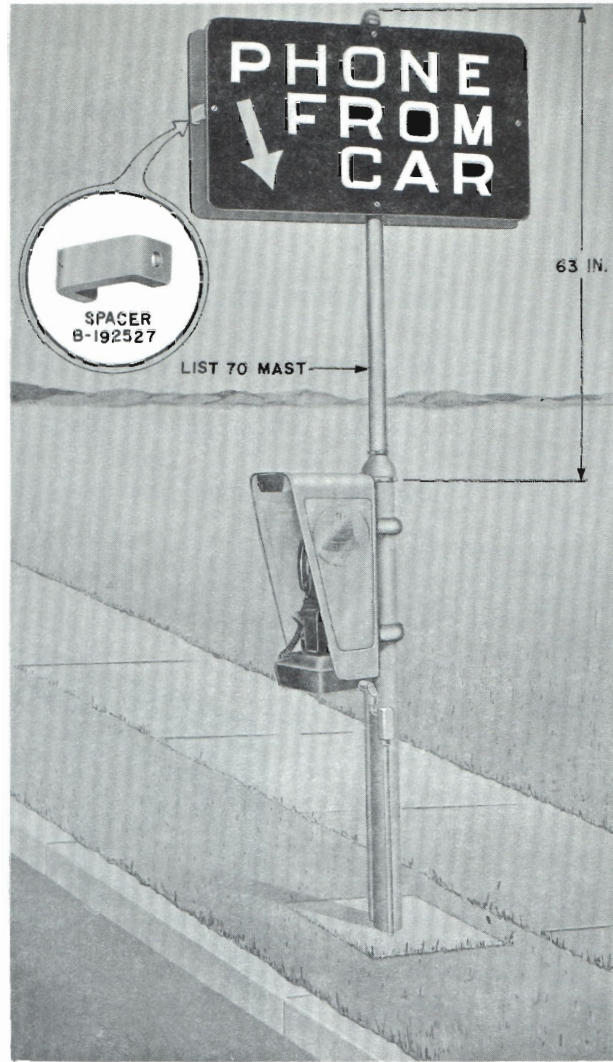
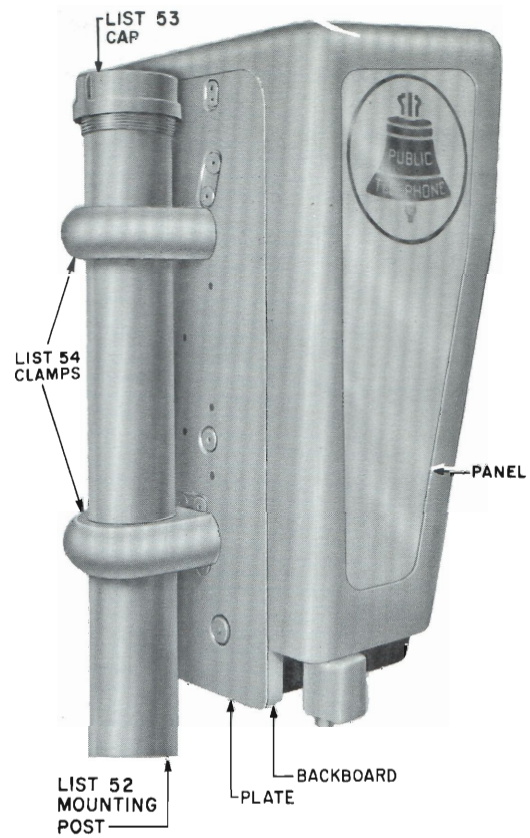

Fig. 4—Drive-Up Installation
Fig. 8 — Mounting KS-16705, Fastened to Mounting Post
2.03 The drive-up public telephone makes it possible for a customer to place a call without leaving the vehicle (Fig. 4).
3.02 An extension mast for attaching public telephone signs can be used on top of the mounting post. Two spacers are furnished with the KS-16705, List 70 mast to space out the ends of signs (Fig. 4). When mast is not used, a cap is placed on the post (see Fig. 8).